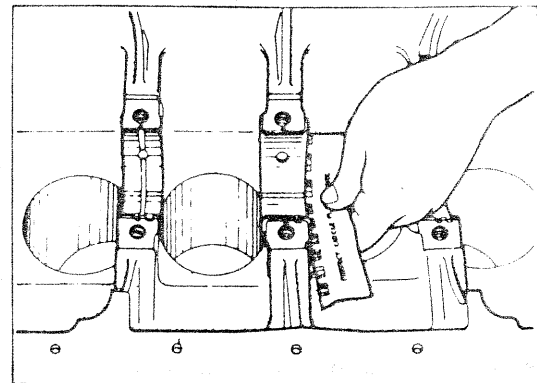

Figure 1.3-R. Measuring Oil Clearance
4. Check piston ring end gap by positioning ring down into cylinder bore with the piston. Measure ring end gap. If service limit is exceeded, replace the ring. (NOTE:- When replacing a ring, be sure to select a ring that matches the piston size.) See Figure 1.3-K.